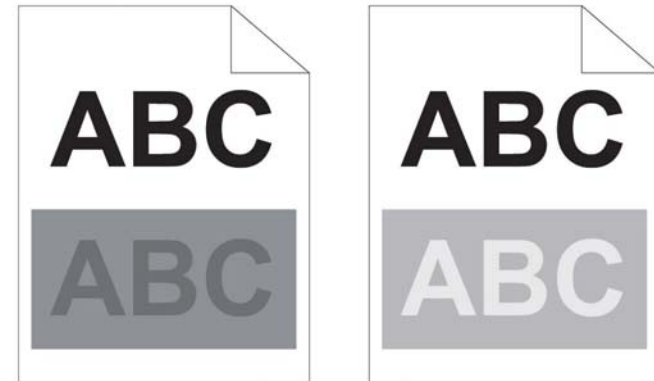

Figure 2 Ghosting Type
- Identify the type of ghosting, refer to Figure 2. If the ghosting is positive, increase the transfer voltage. If the ghosting is negative, decrease the transfer voltage. Perform ADJ 6.3 Transfer Roller Bias Adjustment.